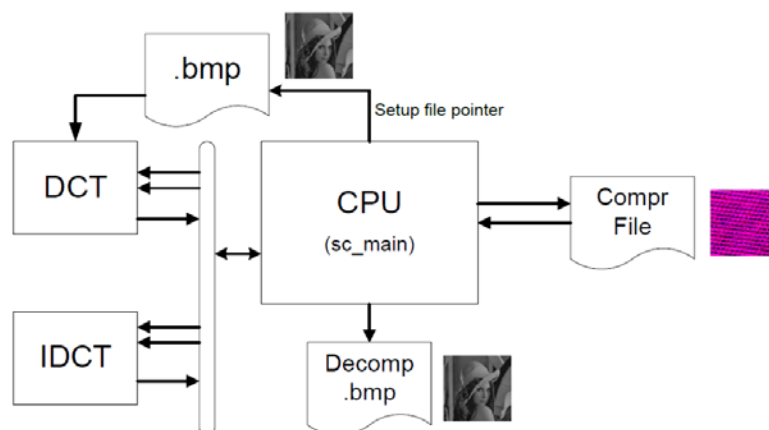

Figure 2: SystemC JPEG Unit Block Diagram
- Dedicated hardware modules for executing the performance critical functions. A block diagram of the system to be designed is provided in Figure 2.
This lab is due week 5 during your lab session. Using the description and diagrams provided above, students are to develop a JPEG encoder/decoder unit using SystemC. To verify that your unit is functioning correctly, your compressed file should resemble the picture given in Figure 2, with your final decompressed .bmp identical (with some image quality loss) to that of the original bitmap.